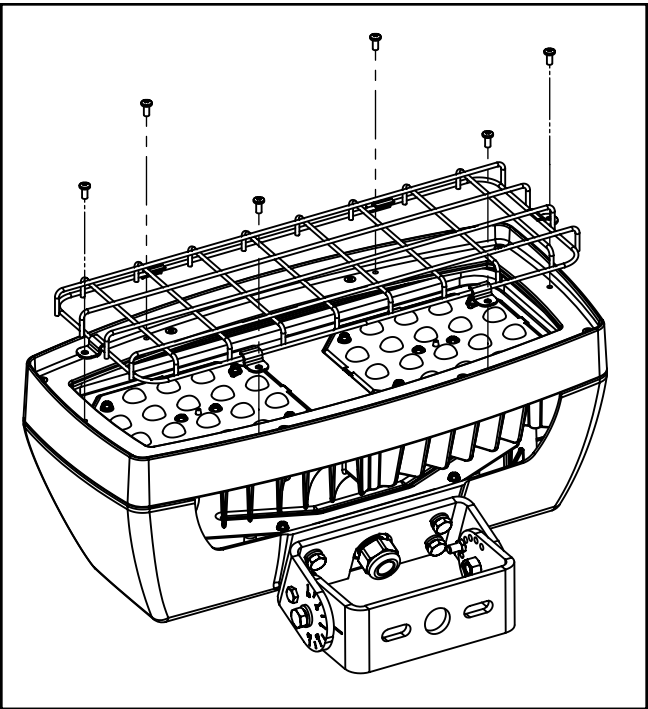

Figure 5.
Wire Guard (Figure 5.)
- 1. Align wire guard on top of lens frame matching the six existing holes. (Figure 5.)
- 2. Tighten (6) 8-32 screws to the face of the fixture.